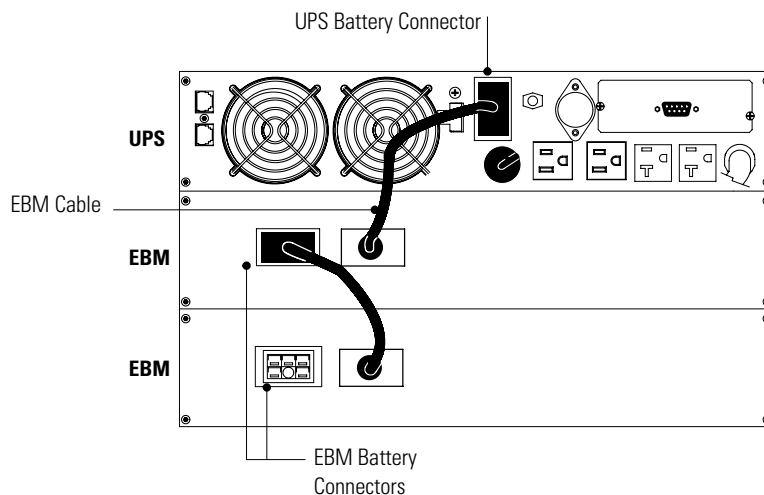

Figure 14. Typical EBM Installation (120V UPS Model Shown)
2. Plug the EBM cable(s) into the battery connector(s) as shown in Figure 14. Up to four EBMs may be connected to the UPS.